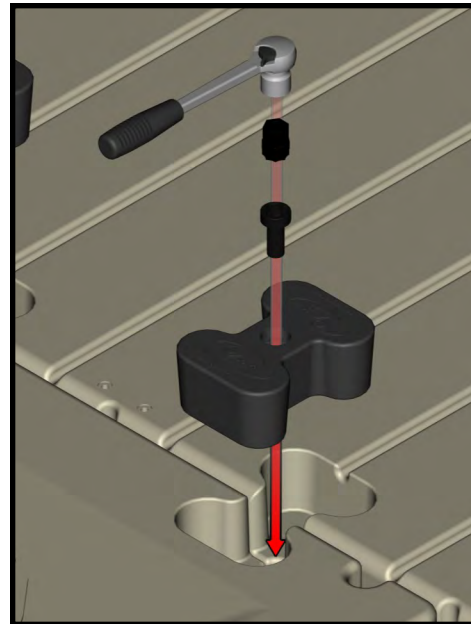

Figure 12.
9. While holding pressure, insert the top coupler into the opposing pocket by aligning the hole in the top coupler over the rod and pushing the coupler into the pocket, (Figure 12).
10. Install the coupler nut (Item 4) onto the bolt and tighten until the top of the bolt is 3/8 - 1/2" below the top of the nut (do not torque over 15 ft-lb). Due to the security feature on the coupler nut, the composite coupler installation tool (Item 3) is required for tightening. The coupler installation tool is splined on the end to be inserted into the coupler nut and the other end is a 15/16" bolt. This is inserted into a 15/16" socket (Item 2) with ratchet (Item 1) for tightening (Figure 12).